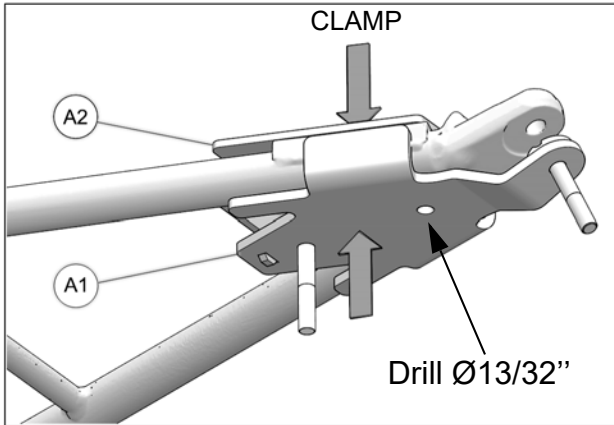

Fig. 16
7. Temporarily clamp top and bottom parts; from the bottom and using the open hole as template, drill out reinforcing plate of suspension arm. Refer to Fig. 16